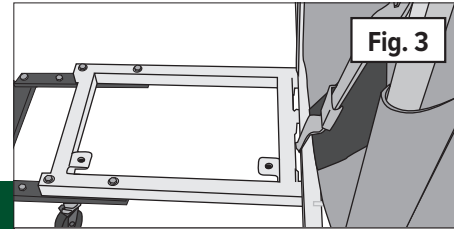

Fig. 3
1. **(Fig. 3)** There are two YELLOW plastic “butterfly” plugs at the base of the engine. Remove one of the plugs and place a rag under the opening to catch any spilled oil.
1. **(Fig. 3)** Lift the Engine/Blower Unit using the handles on each side and position it on the chassis in front of the collector. make sure the blower inlet is facing the same direction as your mower's discharge chute.
1. **(Fig. 3)** Connect the curved plastic elbow marked **"BLOWER"** onto the blower intake opening and secure it with the two latches.